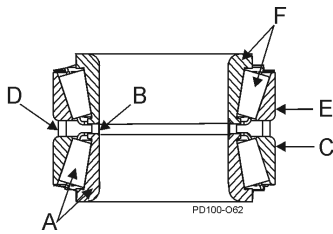

Figure 46 - Bearing assembly
Table 5: Callout table for Figure 46
**NOTE: DO NOT interchange the parts of one bearing assembly with another. The parts are precisely matched during manufacturing and must be installed as a matched assembly. See Figure 46.**